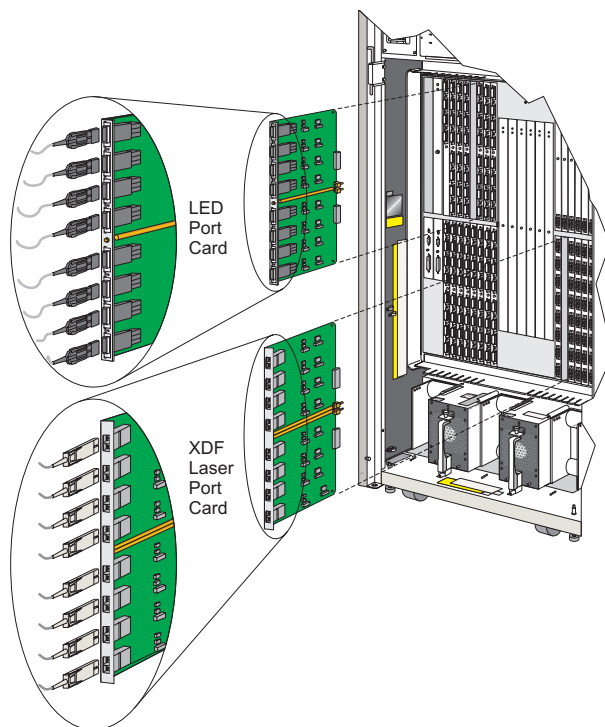
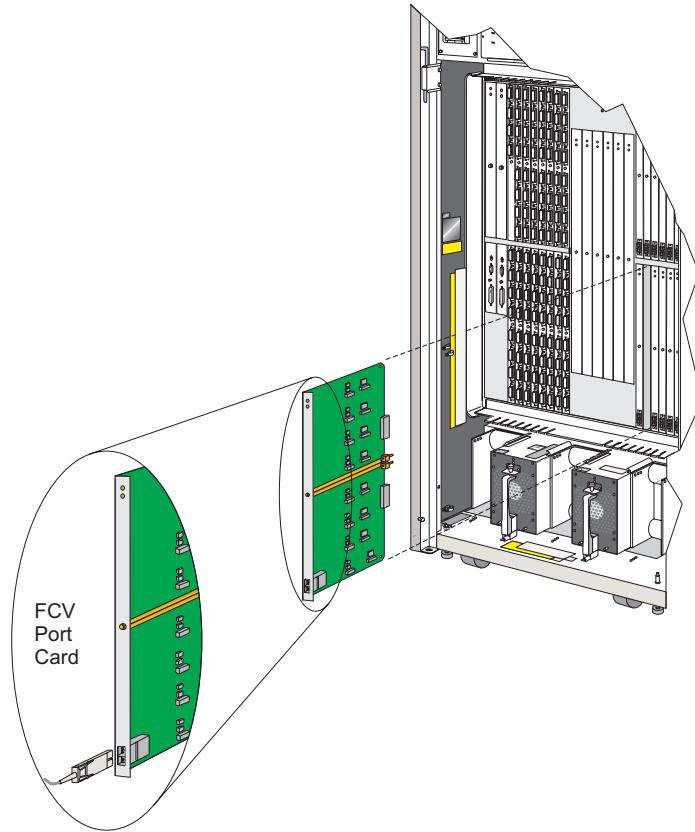

Figure 3-17. LED and XDF Laser Port Cards
Figure 3-18. FCV Port Card
9. Remove the port card by pulling it straight out of its card track. Figure 3-17 on the following page illustrates LED and laser port cards while Figure 3-18 on page 3-42 illustrates FCV card removal and replacement.
Use the following procedure to replace either an LED, XDF laser, or FCV port card. Refer to Figure 3-17 (LED and XDF laser) and Figure 3-18 (FCV).
1. Holding the port card by its stiffener, carefully insert it straight into its card track (refer to Figure 3-17 and Figure 3-18). The component side of the card should face to the right, as shown.